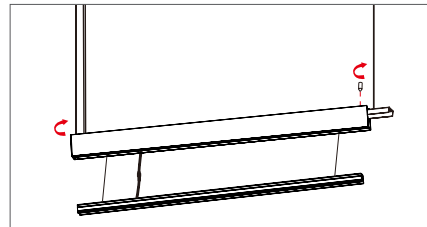

FIGURE 4-5
3) Hang luminaire. Insert the joiner into luminaire from one side and secure with screws. Screw aircraft cables clockwise onto top of fixture housing. (Figure 4-5)